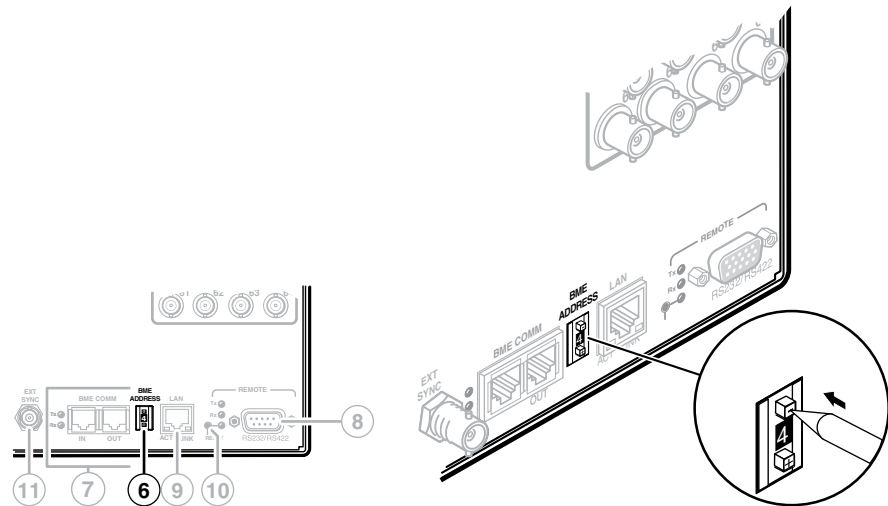

Figure 2-8 — Setting a BME address (video BME shown)
- ⑥ **BME address switch** — To set the BME address, press the + and - buttons on the BME Address switch on the rear panel of the switcher (figure 2-8).